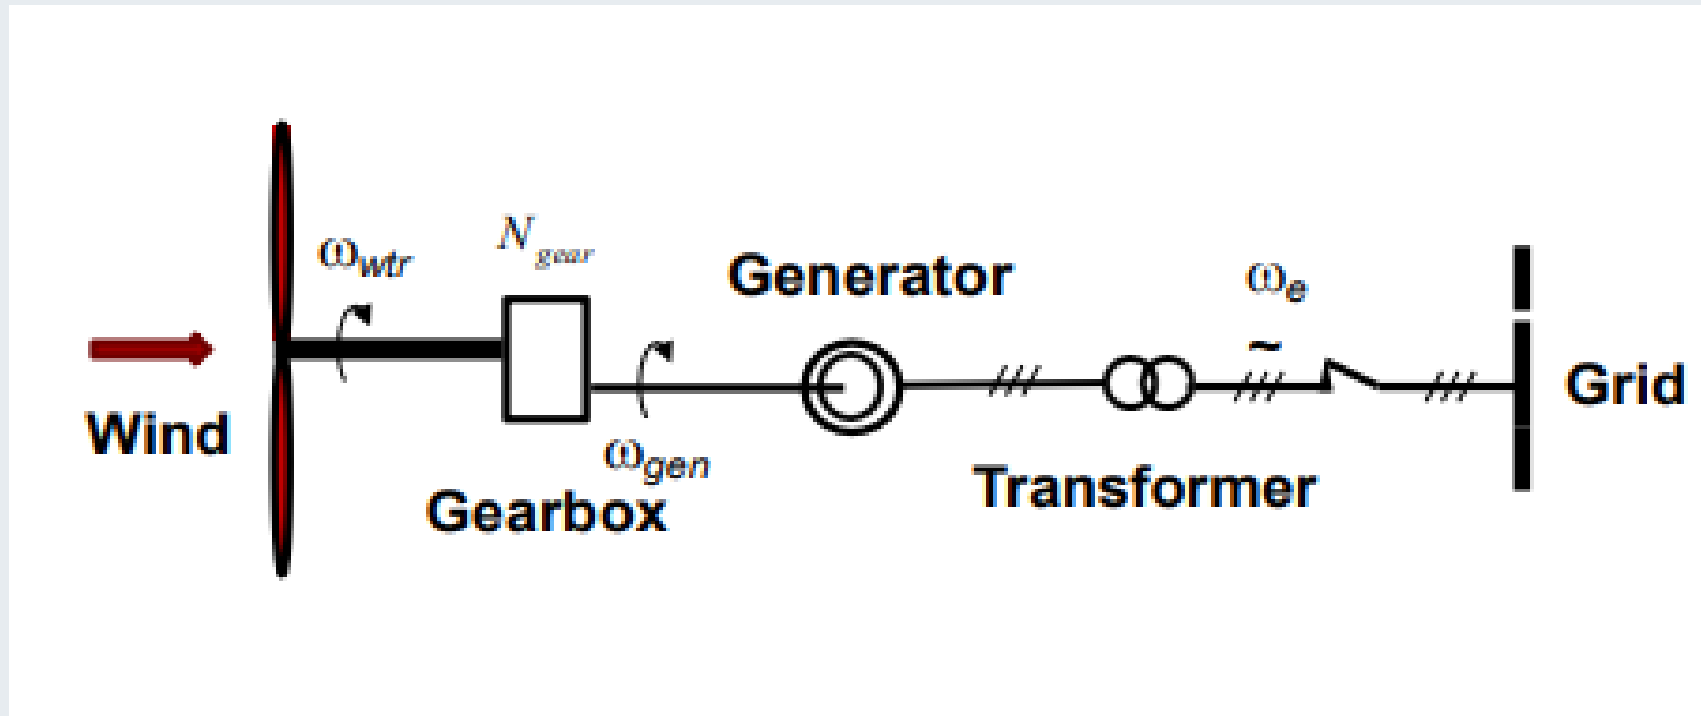

Figure 7. Fixed speed wind turbine. Source: <https://www.sciencedirect.com>
- The basic configuration of the fixed speed system is given in Fig.7.